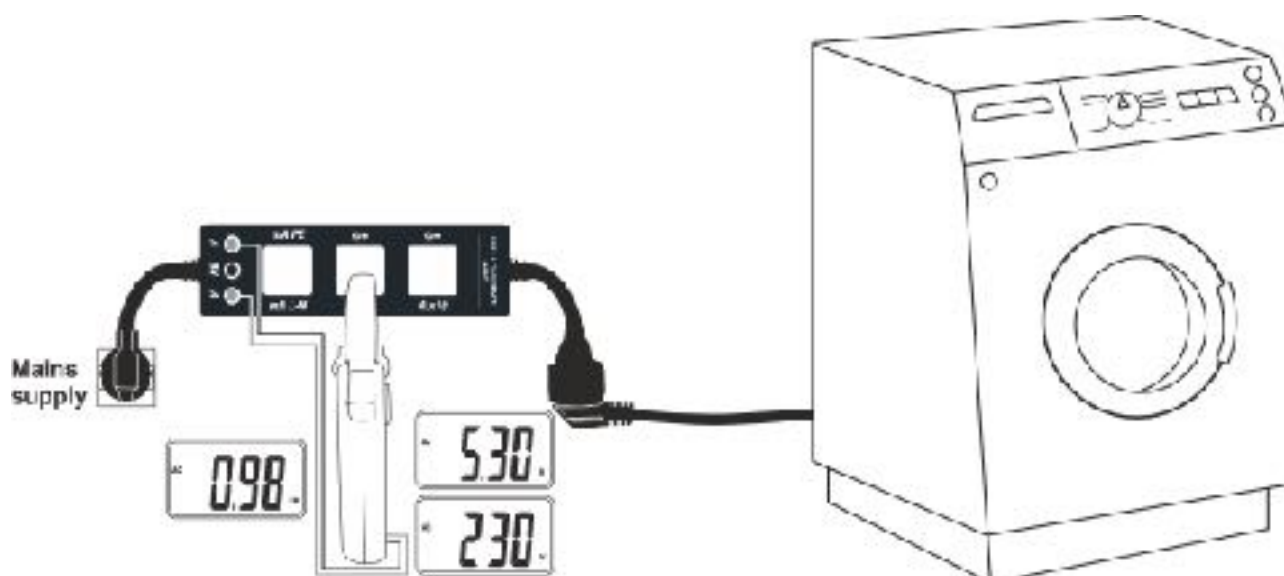

Fig. 4: Use of the instrument for current, voltage and power measurement
4. Read the correspondent values of current, voltage and absorbed power of the load (see Fig. 4).